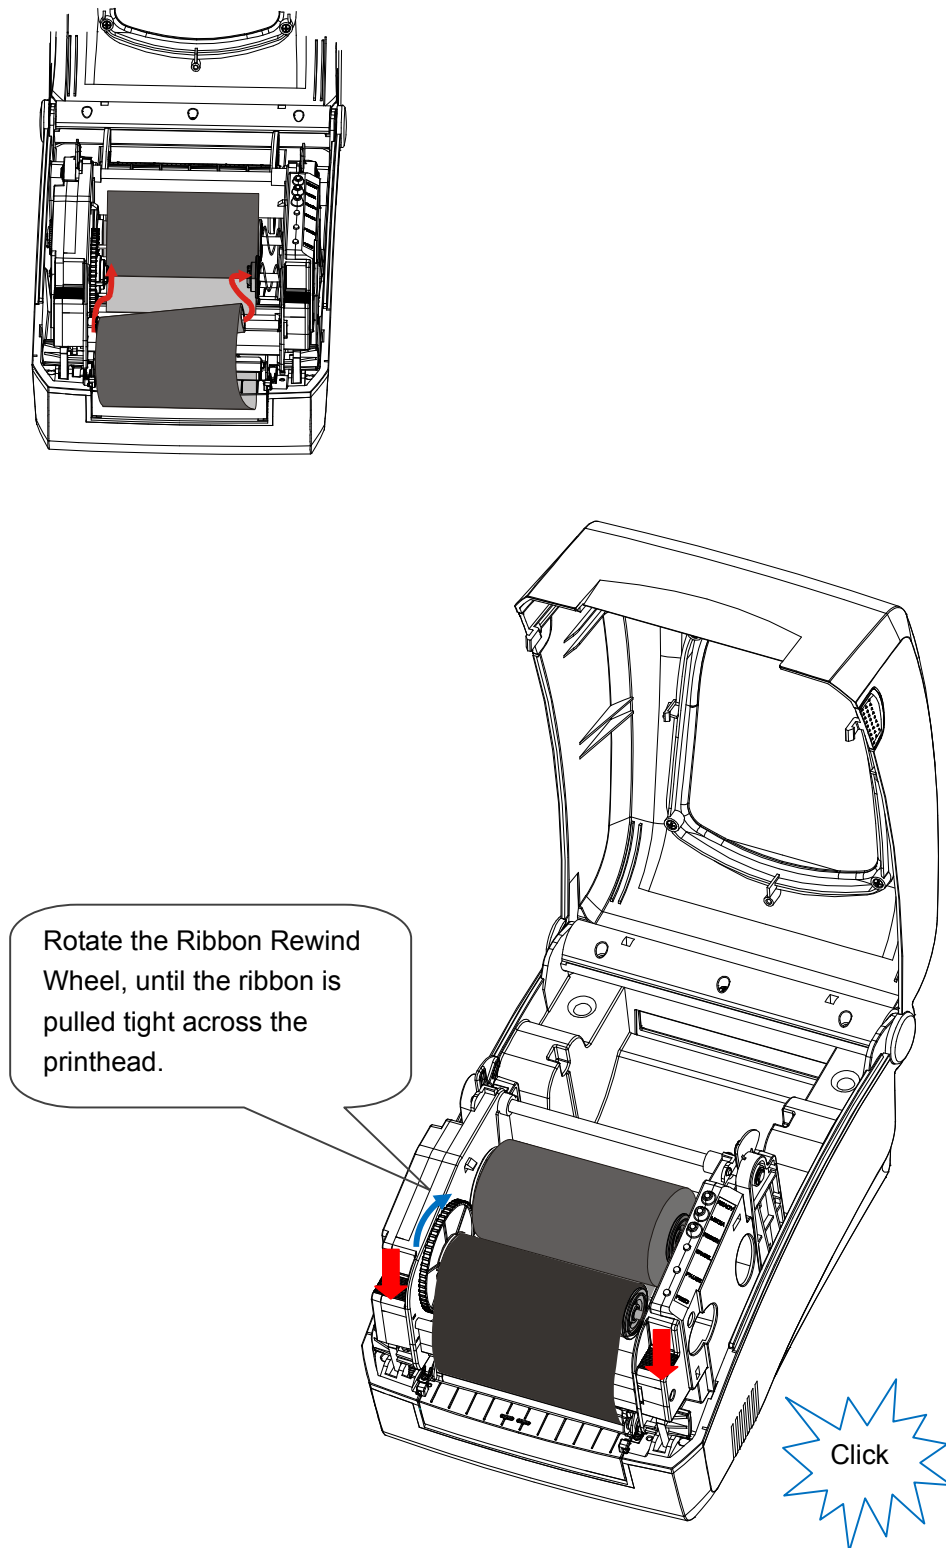

Figure 5-6
9. Load the ribbon take up core into the Ribbon rewind Compartment. (see Figure5-6)